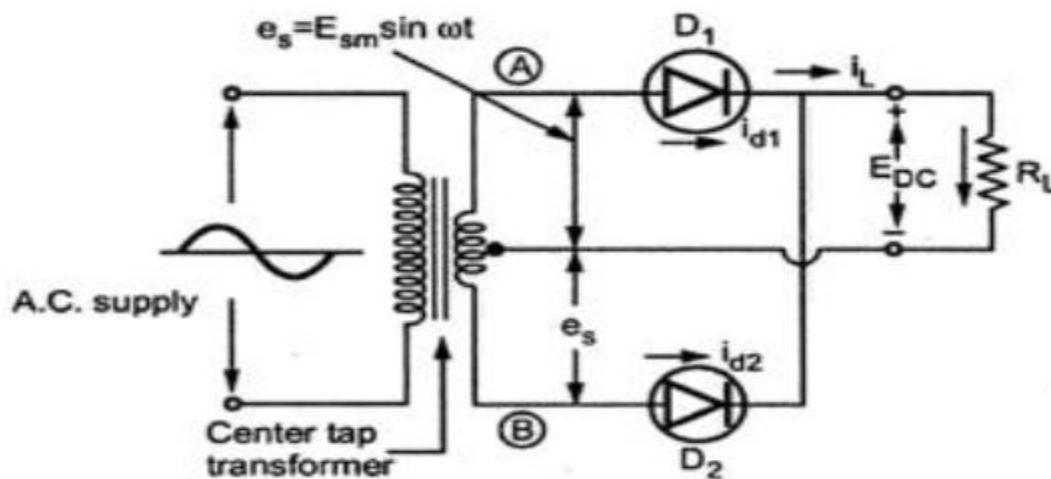

Fig. 2.3 Full wave Rectifier
- The full wave rectifier circuit is shown in the Fig. 2.3.